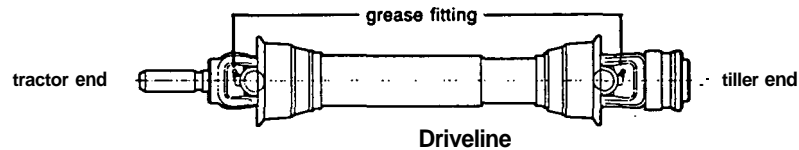

Fig. 27
- 1 Driveline Universal Joints - Apply grease to each fitting using grease gun (fig. 27).